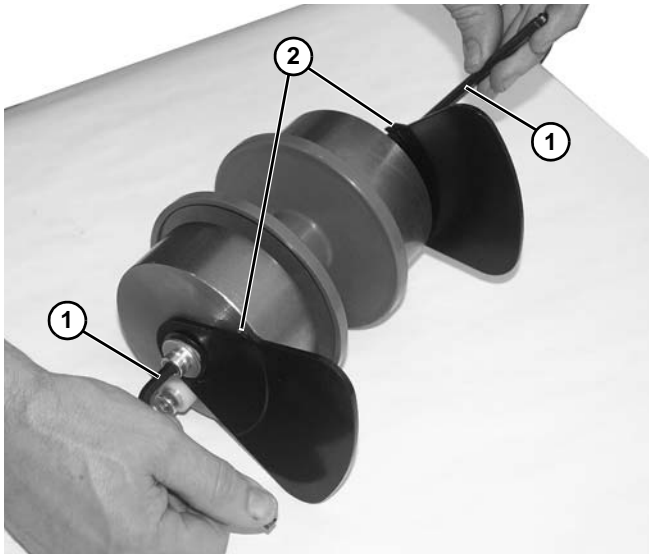

Figure 158
10. Install components reverse of removal, using two hex wrenches (**Figure 158, item 1**) on each side of idler assembly to tighten components.
*Be certain that notches (**Figure 158, item 2**) on both plates are on top side, and spacers are in same orientation, as shown, before tightening components.*